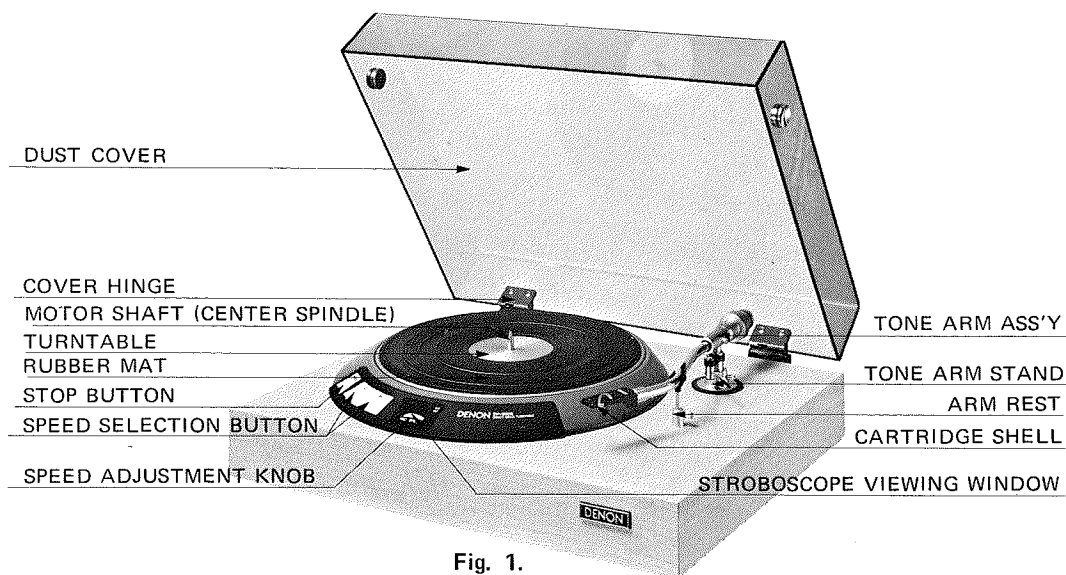

Fig. 1.
3. Then fix the inserted tone arm to the arm stand. First, temporarily adjust the auxiliary height-adjusting screw with screw driver and fix the tone arm loose so that it can rest by itself and is movable with a slight finger touch. (See figure 1)